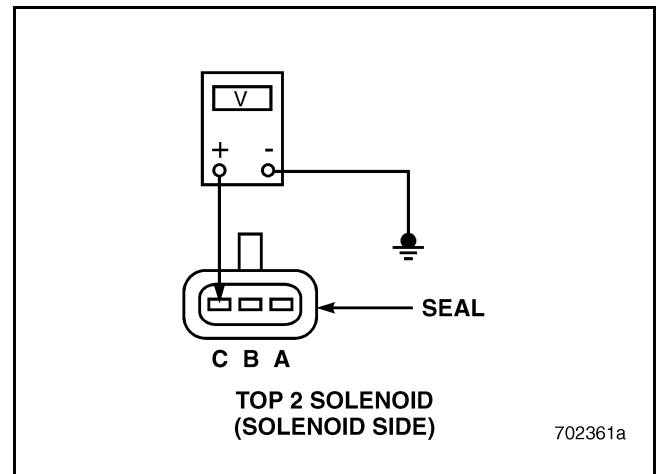

Figure 482
4. Measure the voltage between pin C of the solenoid side of the Top 2 solenoid valve connector and a good ground (see Figure 482).